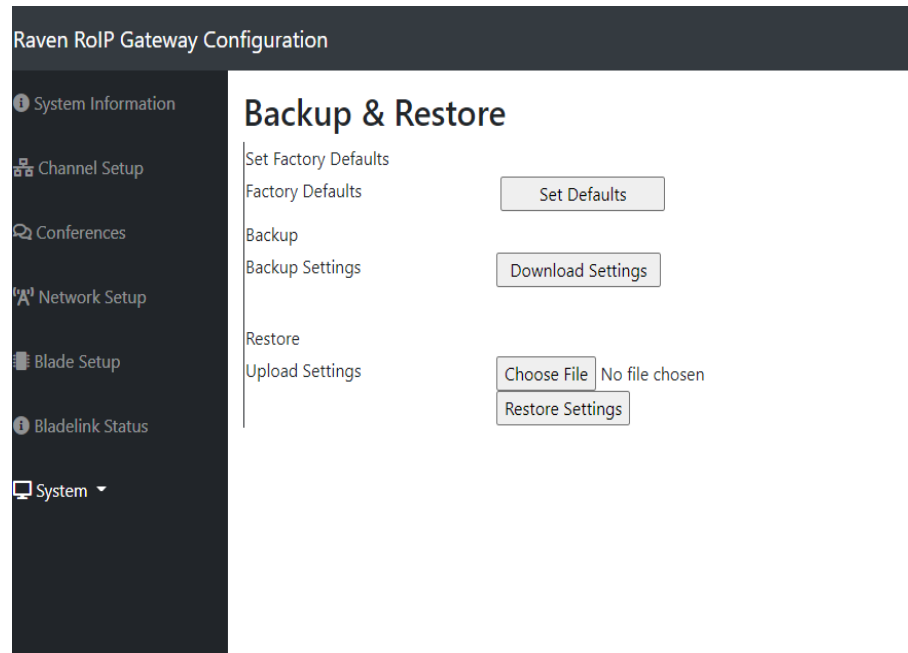

Figure 8-1: “Backup/Restore” web interface.
1. Navigate to the “System” tab on the left panel and click the “Backup/Restore” in the drop down. The webpage will look like Figure 8-1.